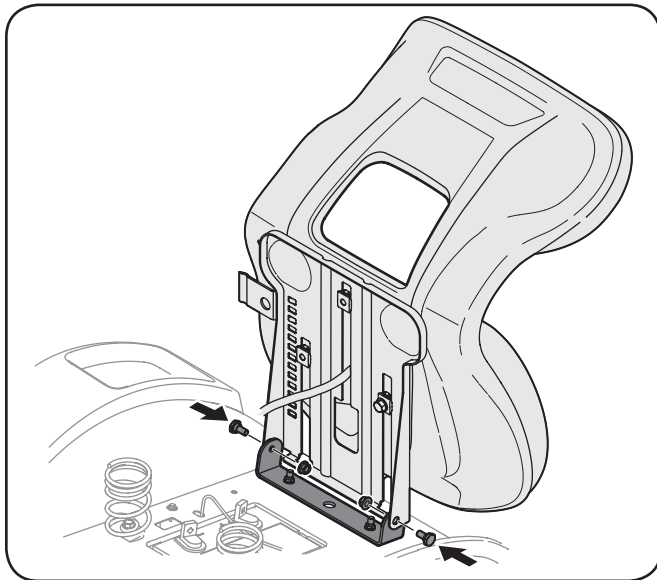

Figure 3-3
3. Rotate the seat into position and secure the seat into place with the previously removed shoulder screws and flange lock nuts. Be careful not to crimp or damage the wire harness while installing the seat. See Figure 3-3.